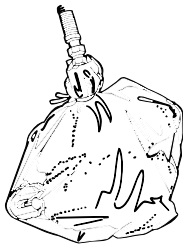

Figure 34 - Place Gun in Sealed Bag
3. Wrap the spray gun (completely assembled) in a damp cloth and place it in a plastic bag. Seal the bag shut. See Figure 34.